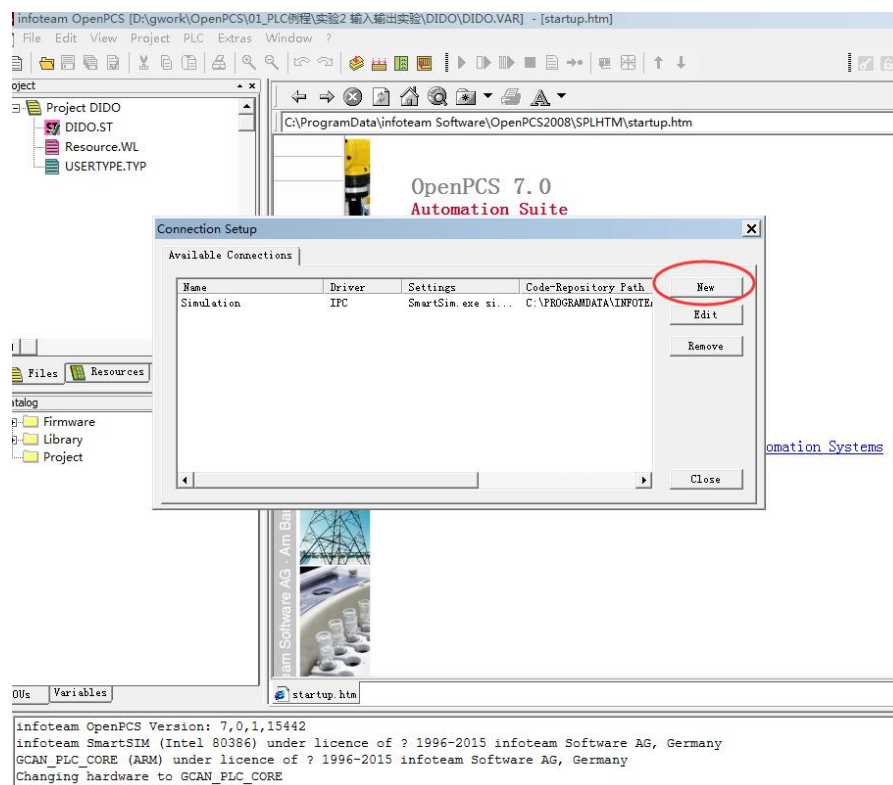

Figure 5.5 Connection Setup
2. Click “New” to set up parameters, port number is the actual serial port number of the computer, shown in Figure 5.5.